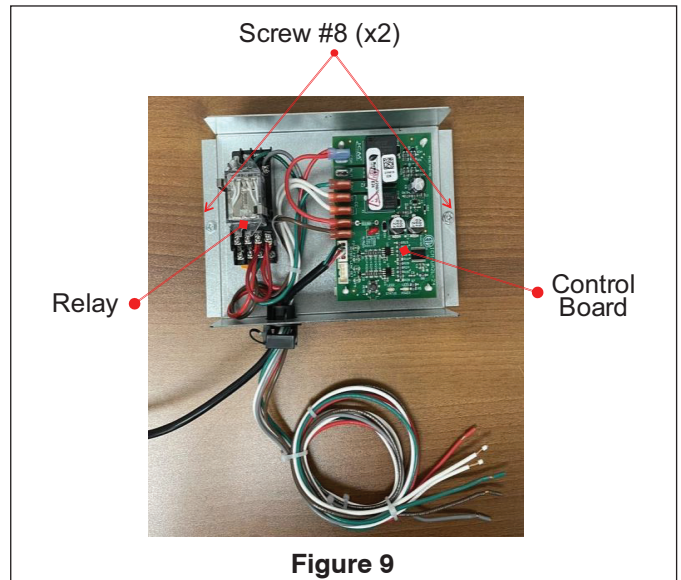

Figure 9
3. Mount mitigation board enclosure to a nearby flat, vertical surface by using using field-supplied screws; see Figure 9 below for more details. The enclosure must be mounted perpendicularly flush to a wall or permanent structure near the coil within three (3) feet of the furnace.